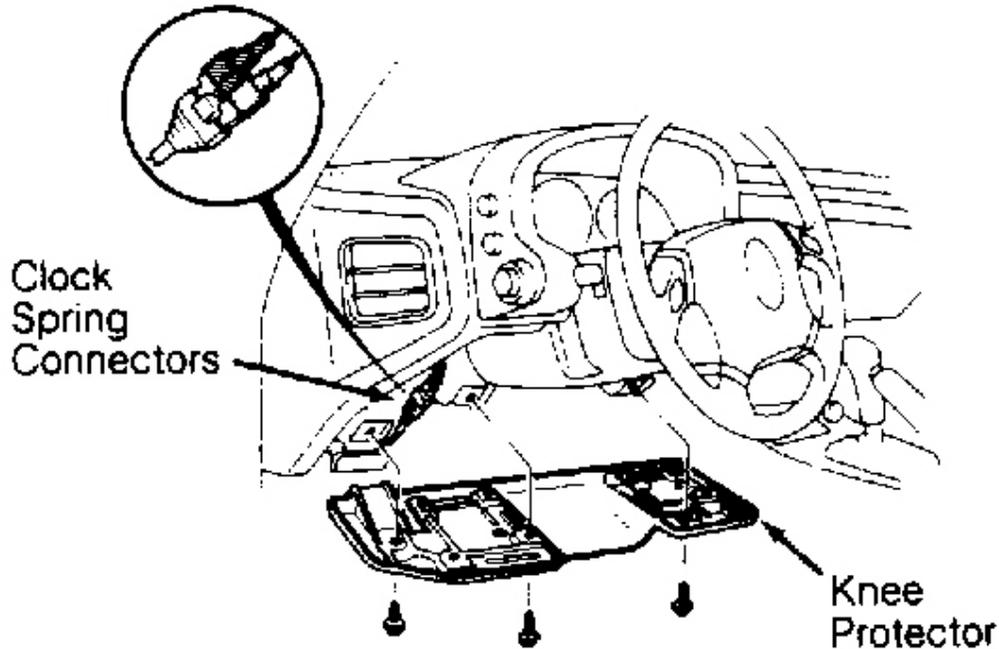

Fig. 1: Locating Clockspring Connector
On Miata, obtain radio code number from customer, and deactivate audio anti-theft function. On all models, turn ignition switch off. Disconnect and shield negative battery cable. Remove knee protector. Disconnect Orange and Blue clockspring connectors at base of steering column. See **Fig. 1** .
2. Ensure air bag module is firmly mounted to steering wheel. Remove knee protector and disconnect Orange and Blue clockspring connectors at base of steering column. See **Fig. 1** . Cut clockspring connector Blue wires.